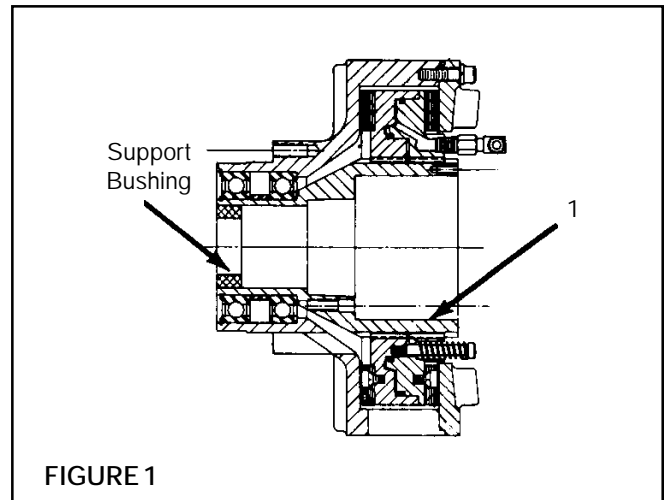

FIGURE 1
1. Place "DPC" Clutch, Friction Disc side down, and support large end of Splined Hub (Item 1) (See Fig. 1).
2. Insert Support Bushing into bore of Splined Hub (Item 1) (See Fig. 1).
3. Apply even pressure around the entire diameter of the Support Bushing, and press the Support Bushing into the Splined Hub (Item 1) (See Fig. 1).